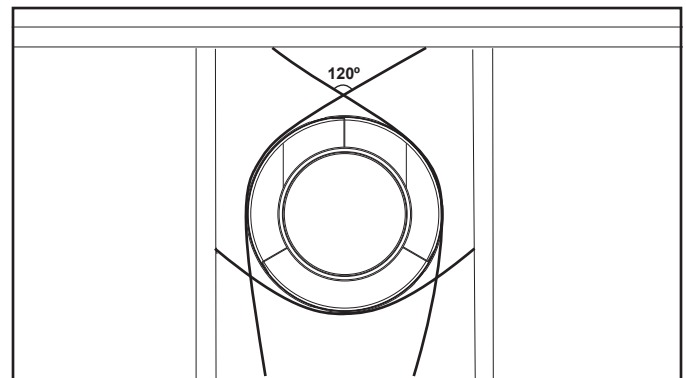

Figure 10.7 Securing Vertical Pipe Sections
- Vent supports or plumbers strap (spaced 120° apart) may be used to support vent sections. See Figures 10.7 and 10.8